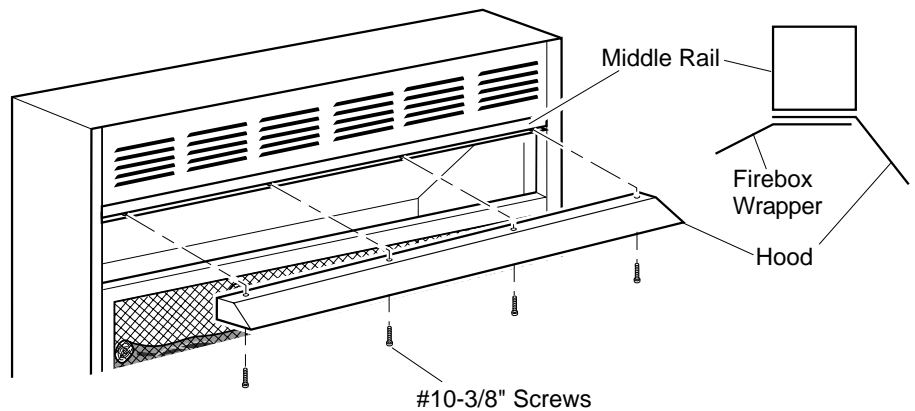

Figure 3 - Assembling Hood
2. Remove two 1^{3/4}" screws from underneath middle rail (see Figure 3).
3. Slip top of hood between middle rail and top of firebox wrapper (see Figure 3).
4. Reinstall two 1^{3/4}" screws removed in step 2. Make sure screw pass through hood and middle rail and attach into upper louver assembly (see Figure 3).
5. Attach four #10-3/8" hood screws as shown in Figure 3.